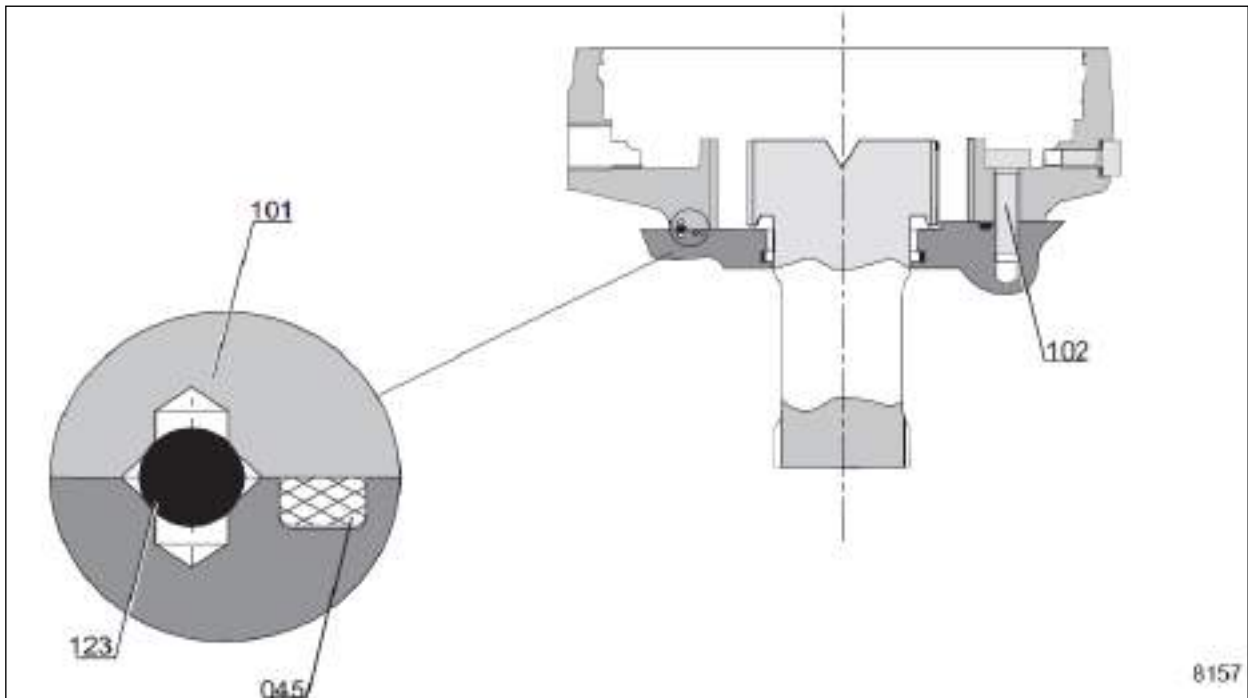

Figure 3-49: Align Brake Housing and Cover Carefully
17. Install the brake housing, item 101, on the cover, item 041. Take care to place the housings in front of the balls, item 123. See Figure 3-49.